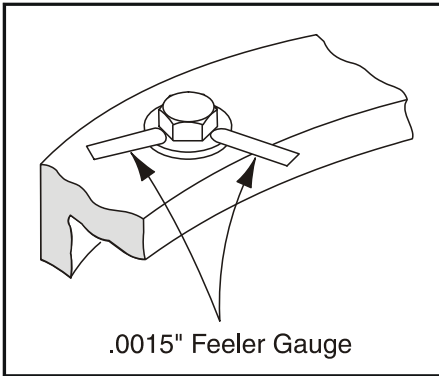

Figure 3-56. Swing Bolt Feeler Gauge Check
- b. At the position indicated on Figure 3-56. try to insert the 0.0015" feeler gauge between the bolt head and hardened washer at the arrow indicated position.